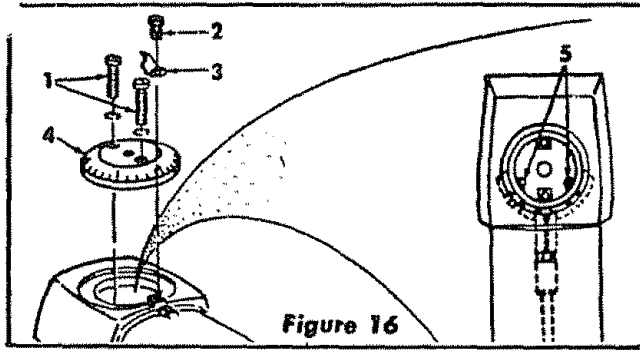

Figure 16
1. Remove three screws (Item 1 and 2, figure 16), indicator (Item 3) and radial arm cap (Item 4).
5. Retighten hex head screws (Item 5, figure 16) and arm latch handle.
7. After blade is square to fence reassemble radial arm cap and indicator using screws (Item 1 and 2, figure 16). Set indicator at 0°.